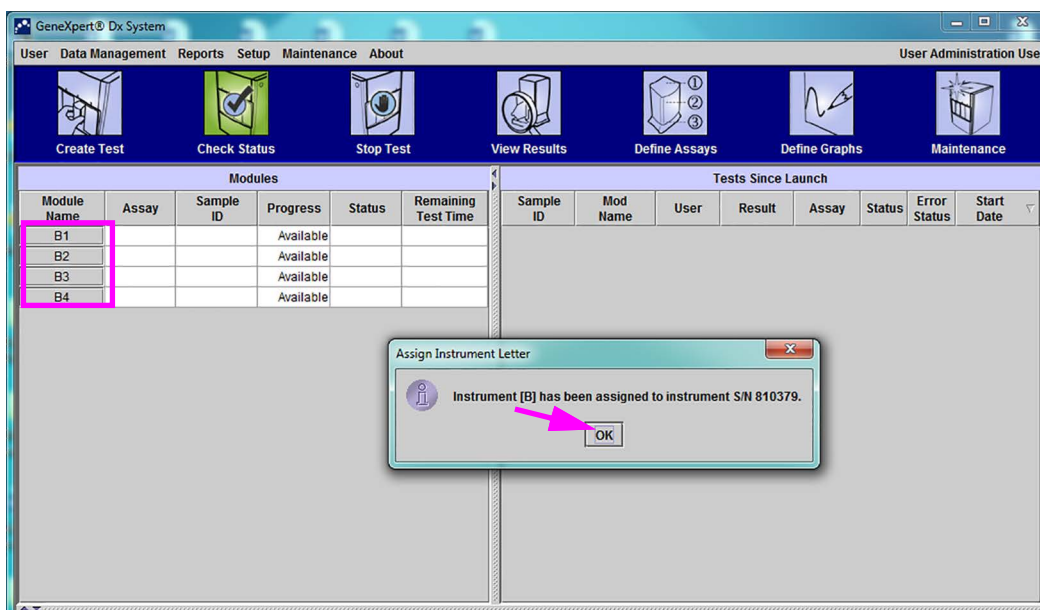

Figure 2-32. GeneXpert Dx System Window with Assign Instrument Letter Dialog Box Overlay
- On the Windows desktop, double-click the **GeneXpert Dx** icon (see Figure 2-32).